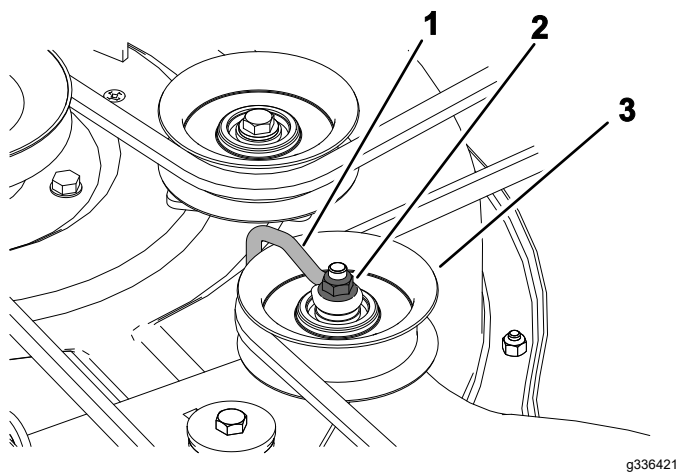

Figure 49
2. Screw (3)
5. Loosen the nut securing the wire form to the idler pulley (Figure 49).
- Note:** Position the wire form against the idler arm as shown in Figure 49.